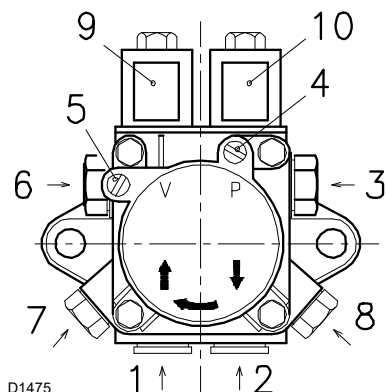

Fig. 17
Legend (Fig. 17)
- In order for self-priming to take place, one of the screws 4)-8)(Fig. 17) of the pump must be loosened in order to bleed off the air contained in the suction line.